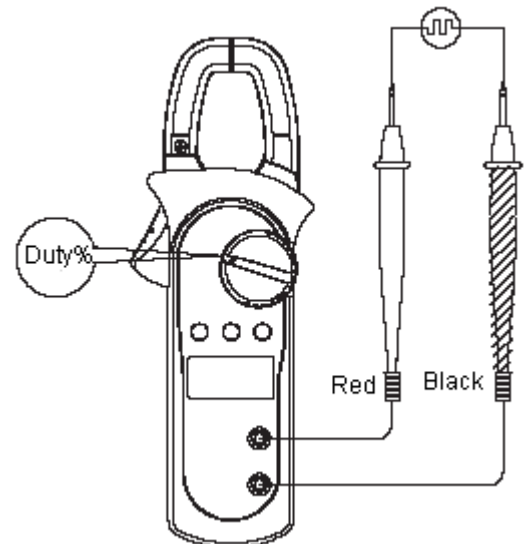

Figure 8
F. Duty Cycle Measurement (see figure 8)